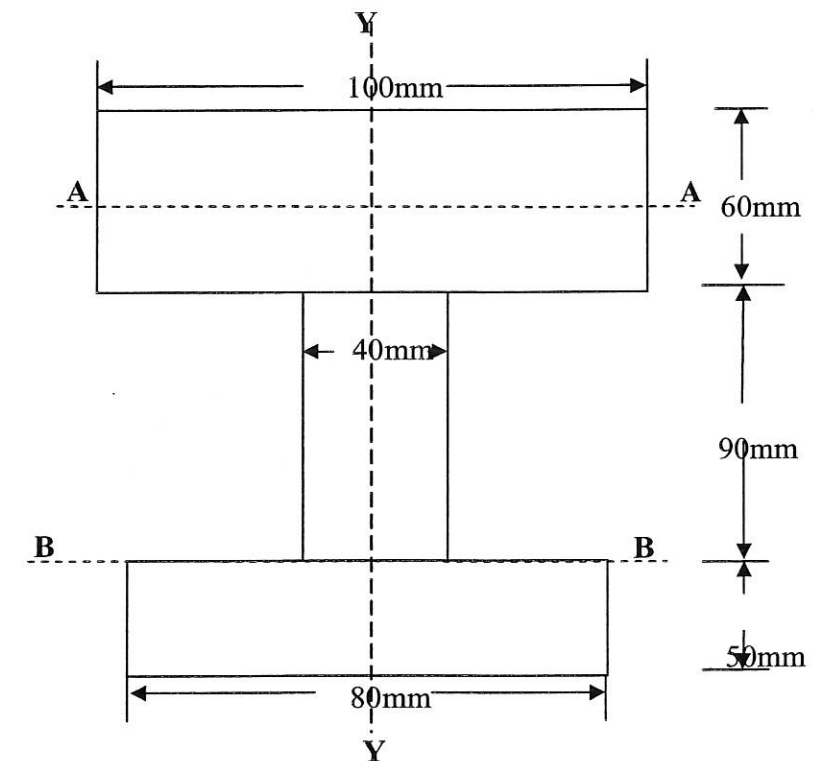

Figure 5
A steel bar with a cross section as shown in Figure 5 below, is subjected to a 200 kN shear force along YY axis.
- b) Draw the neutral axis based on Figure 5. (3 marks)